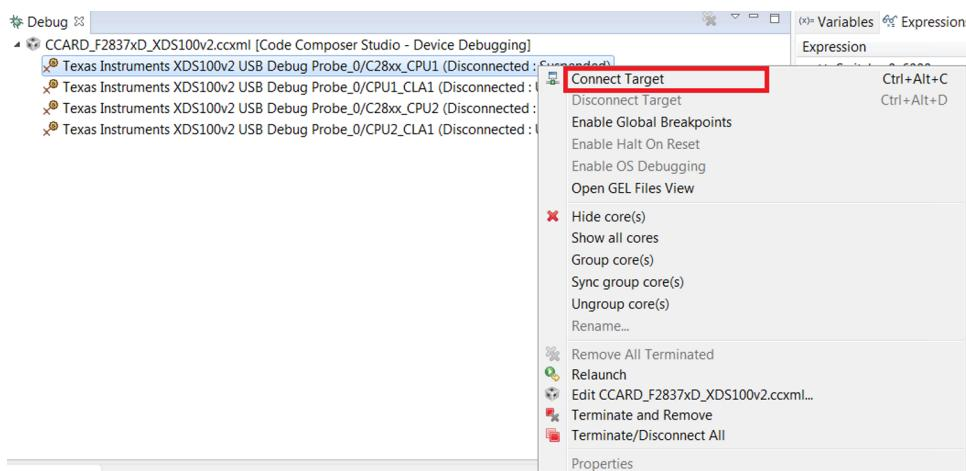

Figure 25. Connect to CPU1
10. Right-click and connect to CPU1 (see Figure 25).